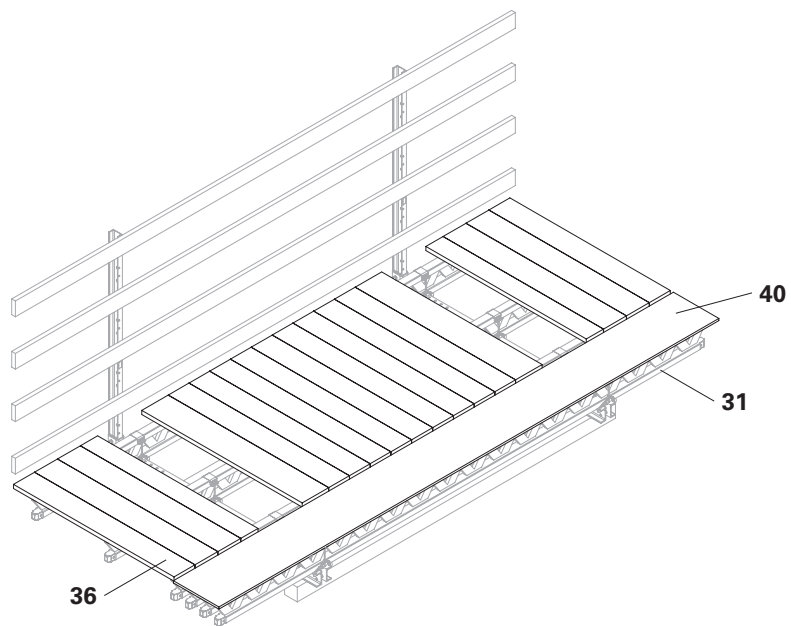

Fig. B4.04
1. Fasten the formlining (40) to the Formwork Girders GT 24 (31) with wood screws or wire nails.
2. Saw planking (36) to length and attach it to the Formwork Girders GT 24 (31) with wood screws or wire nails.
- (Fig. B4.04)